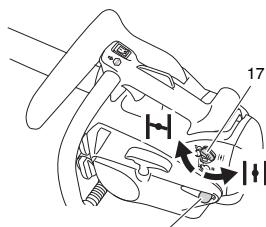

Fig. 12
3. Push priming pump (16) about ten times so that fuel flows through priming pump into carburetor.(Fig. 12)
4. Turn the choke lever (17) to choked position (Fig. 12). This will automatically lock the throttle in starting position.
6. When you hear first ignition, return the choke lever to run position. (Fig. 12)